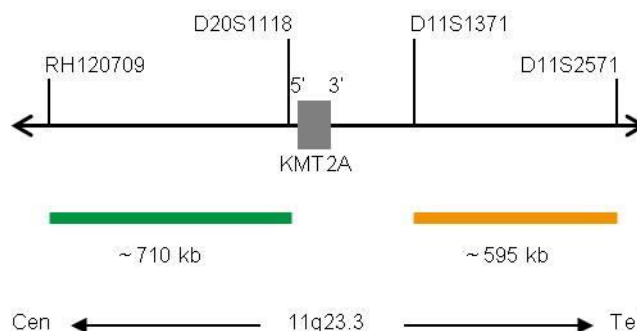

Fig. 1: SPEC KMT2A Probe map (not to scale)
- ZyGreen (excitation 503 nm/emission 528 nm) labeled polynucleotides (~10.0 ng/μl), which target sequences mapping in 11q23.3* (chr11:117,574,074-118,284,029) proximal to the KMT2A breakpoint region (see Fig. 1).
- ZyOrange (excitation 547 nm/emission at 572 nm) labeled polynucleotides (~4.5 ng/μl), which target sequences mapping in 11q23.3* (chr11:118,643,787-119,237,675) distal to the KMT2A breakpoint region (see Fig. 1).